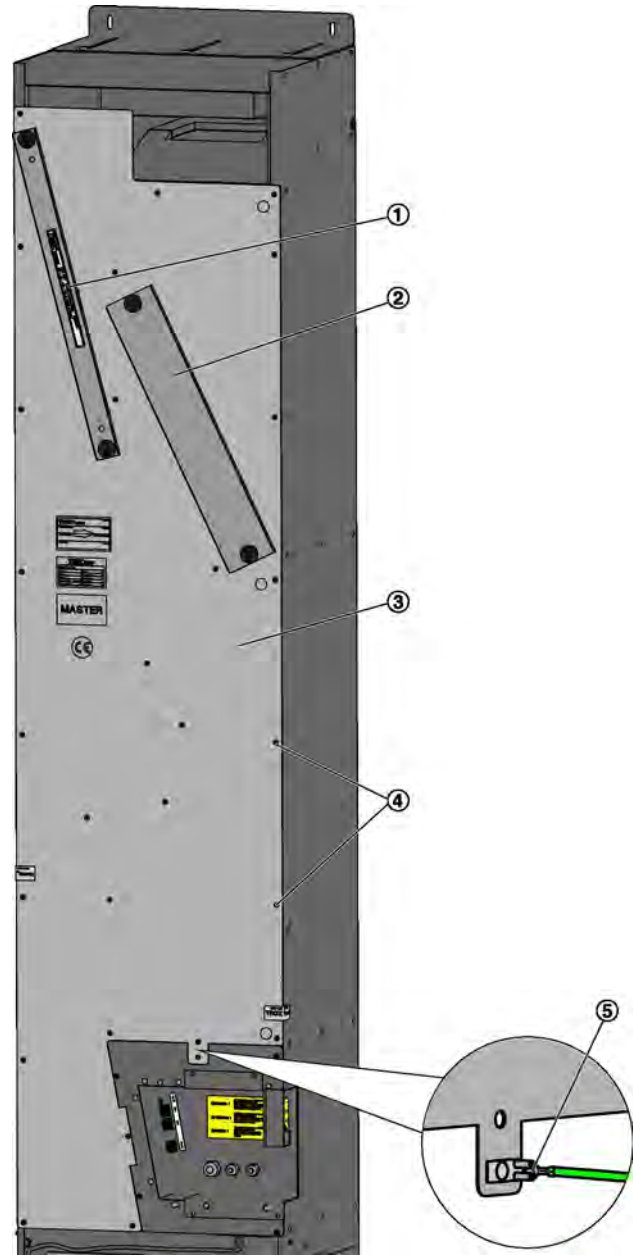

Fig. 33: Fixing the cover plate
Be sure to insert the protective conductor (Fig. 33 /5) when you fix the cover plate.
1. ▶ Attach the protective earth conductor (Fig. 33 /5) to the cover plate, then put the panel back onto the ventilation unit (Fig. 33 /3). Fix the cover plate with the Phillips screws (Fig. 33 /4).
2. ▶ Insert the extract air filter (Fig. 33 /1) (Fig. 33 /2) and remove the cover from the outdoor air filter chamber Fig. 33 .